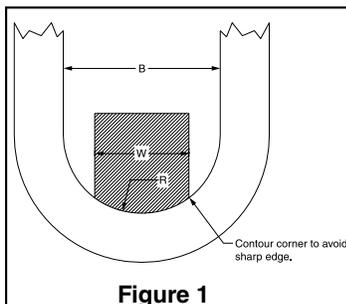

Figure 1
Crosby master links and master link assemblies are proof tested with special fixtures in accordance with ASTM A952. While other specifications such as EN 1677-4 Recommended Guideline for Proof Test Procedures for Slings related to master link and master link assemblies also allow for the use of special fixtures when proof testing, Crosby follows the guidelines set forth in ASTM A952. The purpose of the special fixture is to prevent localized point loading during the proof test. Point loading at the proof test load may result in permanent deformation. The proof test fixture per ASTM A952 allows for a maximum fixture width (W) of 60% of the inside width (B) of the master link. The radius of the fixture (R) is one-half of inside width of the master link. A sketch showing an example of the special fixture is shown in Figure 1. Note that the corner of the fixture should be contoured so that a sharp edge does not make contact with the master link during the loaded condition.